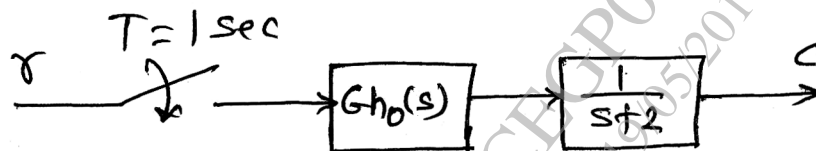

Fig. 2
- (b) Obtain pulse transfer function and impulse response of the system shown in Fig. 2 : [7]